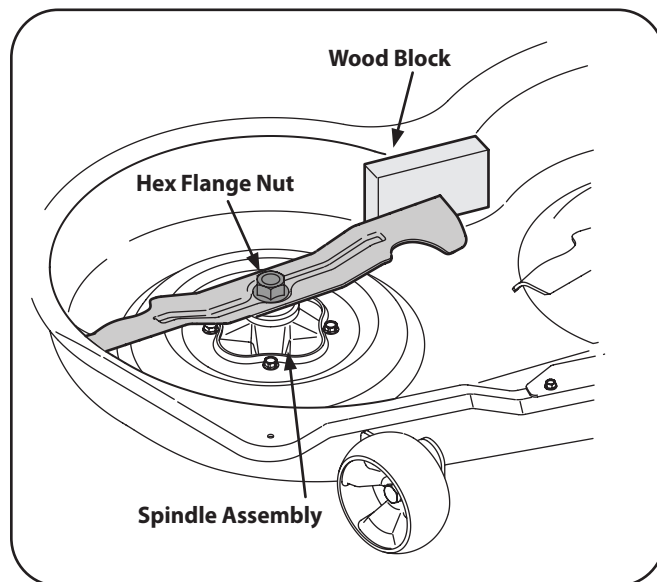

Figure 7-7
2. Use a $1\frac{5}{16}$ " wrench to hold the hex nut on top of the spindle assembly when loosening the hex nut securing the blade. A block of wood may be placed between the deck housing and the cutting edge of the blade to help in breaking loose the hex nut securing the blade. See Figure 7-7.